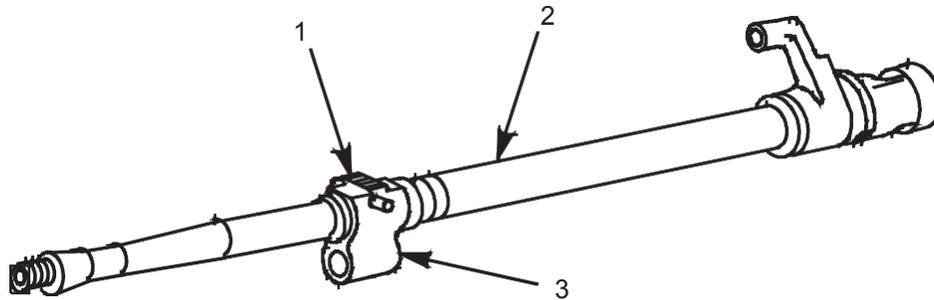
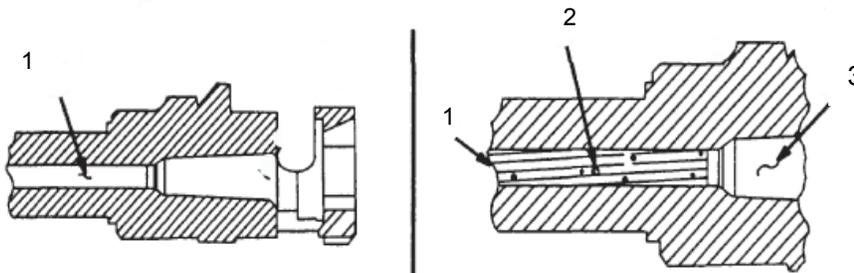

Figure 8. Inspection of Barrel.
Figure 9. Bore Inspection for Pits.
3. Visual inspect barrel (Figure 8, Item 2) for bends and the dovetail area (Figure 8, Item 1) of the gas block (Figure 8, Item 3) for damage. Replace barrel (Figure 8, Item 2) if bent or gas block (Figure 8, Item 3) is damaged.
4. Visually inspect bore (Figure 9, Item 1) and chamber (Figure 9 Item 3) for pits, using the following criteria:
- a. Pits in the chamber (Figure 9, Item 3) are allowable if they are not large enough to cause extraction difficulties. If extraction difficulties are experienced, replace the barrel (Figure 8, Item 2).
- b. Pits in the bore (Figure 9, Item 1) are allowed if they are less than the width of a land or groove (Figure 9, Item 2) in width or length. If pits are greater than the width of a land or groove (Figure 9, Item 2) in width or length, replace the barrel (Figure 8, Item 2).
- c. Scattered or uniformly fine pits in chamber (Figure 9, Item 3) are allowable.